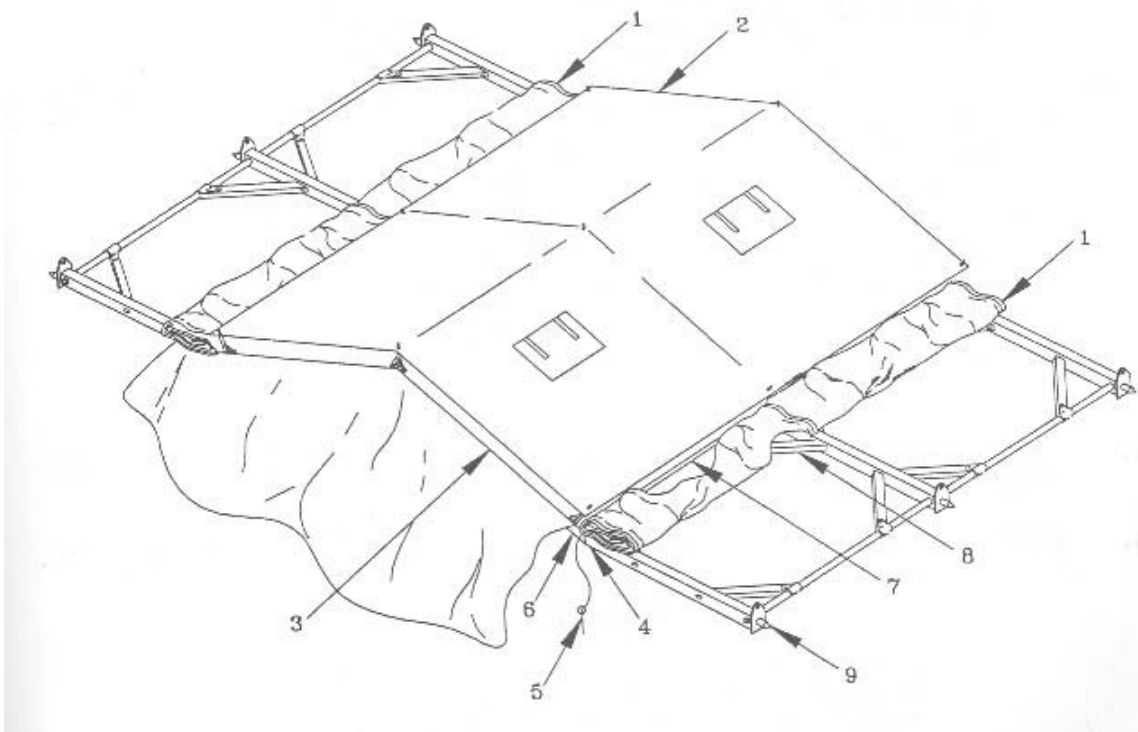

Figure 3-6
- (2) Clear ground area of rocks and underbrush, which might damage the tent.
- (3) Shelter tent from high winds.
- (4) Lineup each frame bundle along the side of the site to be utilized.
- (5) Place the roof sections (2) between tent frame sections (See Figure 3-6).
- (6) Place end walls at each end of tent.
- (7) Place fly at every other roof section.
- (8) Place intermediate lines next to roof sections when applicable.
- (9) Place end section lines next to end roof sections.
- d. Place roof section (1,2 and 3) over frame starting at one end (See Figure 3-6).
- (1) Find ridge grommet and insert it over pin (6) protruding up from frame.
- (2) Do the same at the eaves.